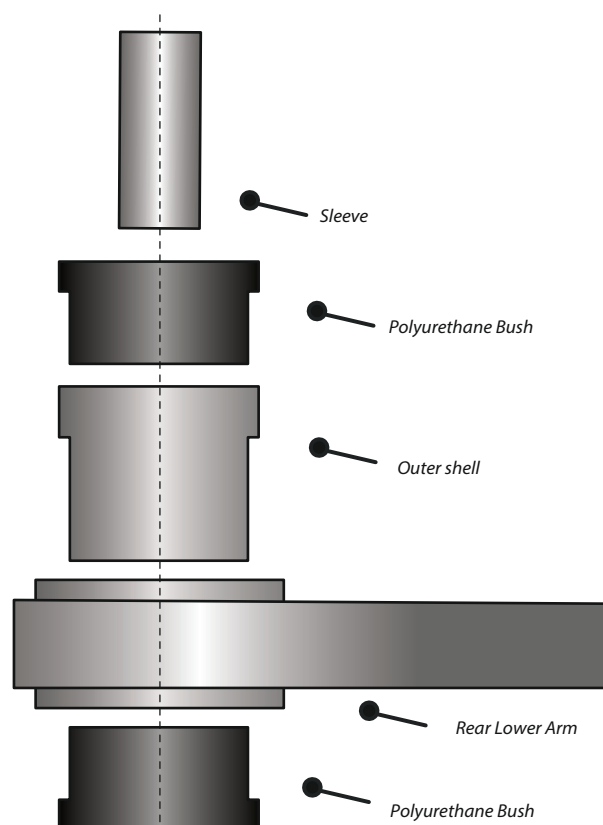

Figure 1
3. Press the outer shell into the arm as shown in Fig 1. This can be in either direction as the bush is centred in the arm either way.